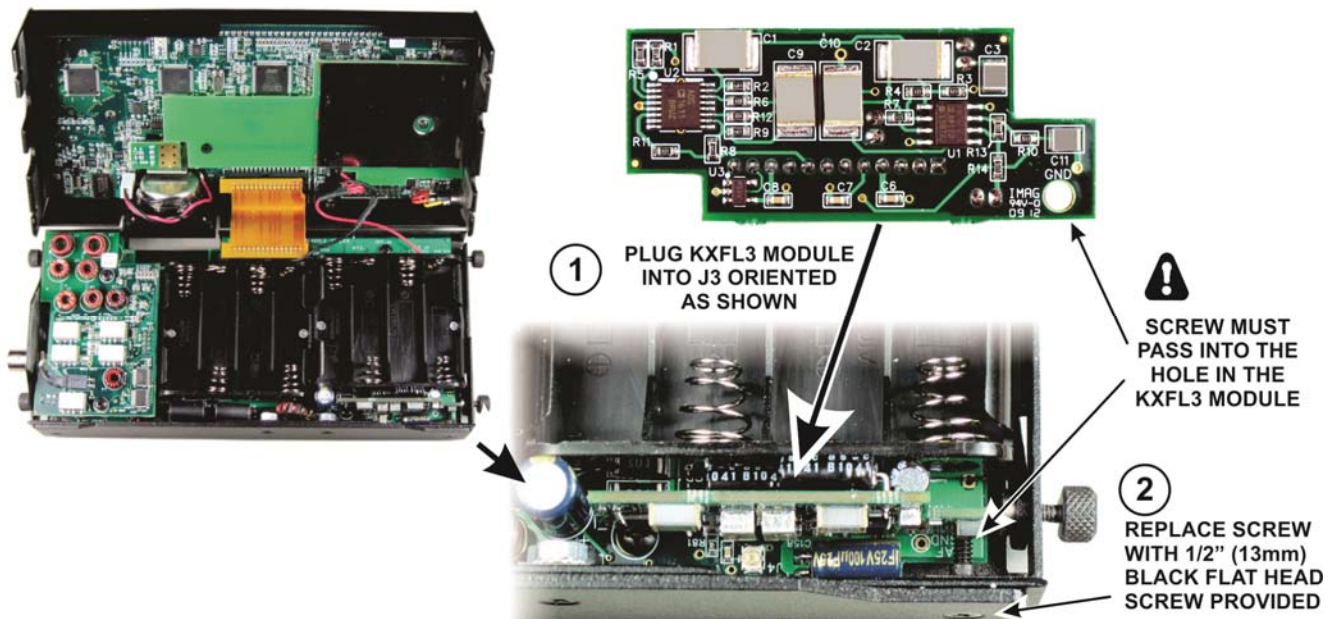

Figure 2. Installing the KXFL3 Module.
- Taking ESD precautions, remove the KXFL3 and plug it into J3 on the KX3 RF board as shown in Figure 2. The screw is there only to ensure the KXFL3 module cannot be knocked out of its socket by rough handling of the KX3. It does not provide a ground return or other function.